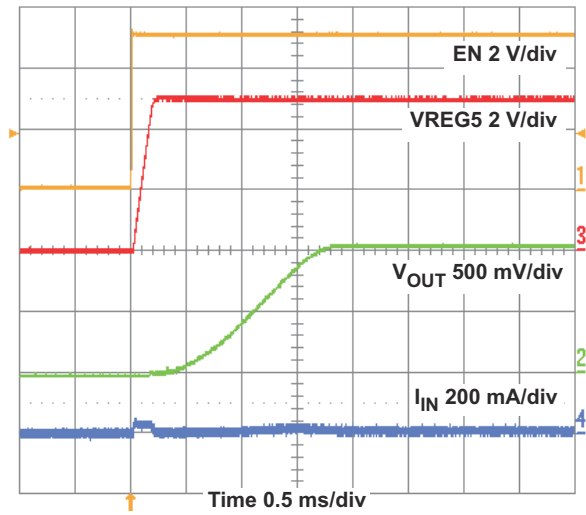
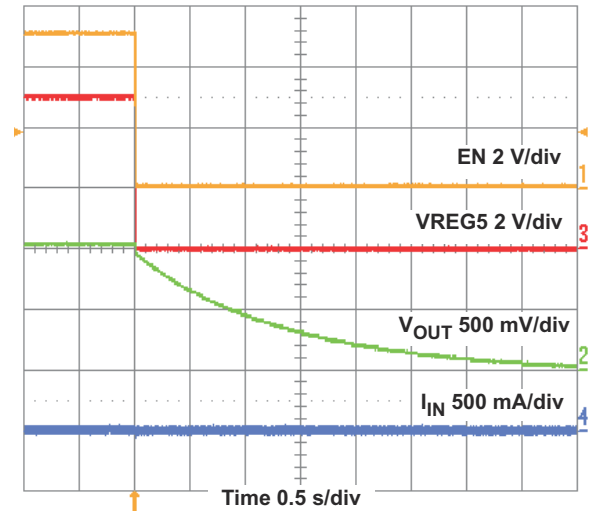

Figure 4-10. TPS54427 Start-Up Relative to EN
Figure 4-11. TPS54427 Shut-down Relative to EN
The TPS54427 start-up and shut-down waveforms relative to enable (EN) are shown in Figure 4-10 and Figure 4-11.